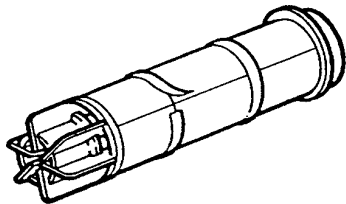

Fig. 24
3. **Wall Thickness 280mm - 685mm (11in - 27in)** -Take the telescopic air duct from its pack. Open the air duct out to the wall thickness. Using the tape provided seal the joints of the three sections of the air duct, ensuring an overlap of at least 30mm ($1\frac{3}{16}$ in) at each joint (Fig. 24).